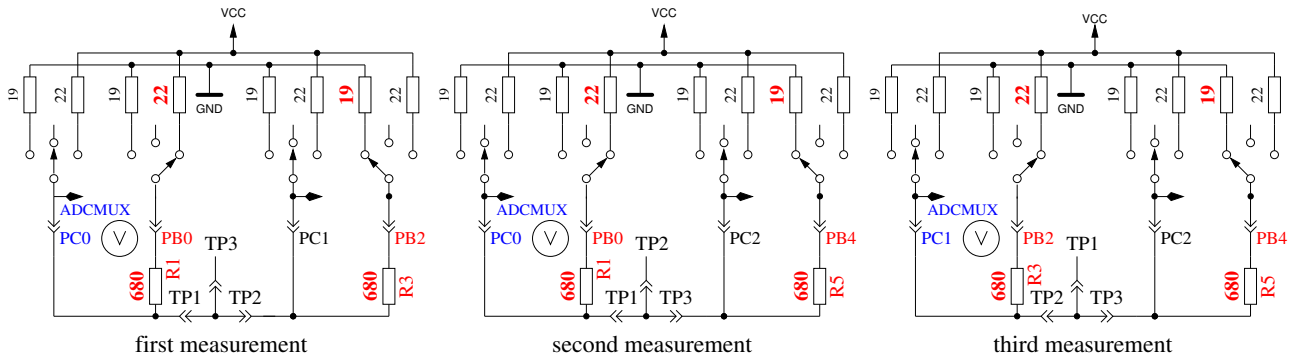

Figure 5.62. Comparison of 680Ω resistors
2. **Comparing of the 680Ω resistors.** In row 1 the cryptic text “+RL- 12 13 23” is shown. Meaning of this is as follows: The RL is the short form of Resistor Low meaning the 680Ω resistors. The 12 stand for: resistor at pin 1 is connected to VCC (+) and resistor at pin 2 is connected to GND (-). The result of this measurement is displayed in row 2 at the first place as difference to the theoretical value. In row 1 follows now a “13” which means, that the first connection of measurement 1 is still connected with 680Ω to VCC but that the resistor of pin 3 is connected to GND. The result is displayed in the middle place of row 2 as difference to the theoretical value. The last measurement of this test “23.” means that now the resistor at pin 2 is connected to VCC (+) and the resistor of pin 3 is connected to GND. The result of measurement is displayed at the last place of LCR row 2 as difference to the theoretical value. Please remember, that the resolution of the ADC is about 4.88mV! The measurement situation is also shown in figure 5.62. The theoretical value with respect to the internal resistance of the pins should be: $\frac{5001 \cdot (19+680)}{(19+680+680+22)} = 2493$.